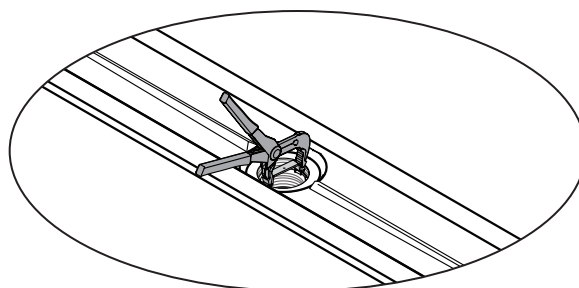

Figure 11
- 2 Using the adjustable pliers, snap the support bracket into the groove in the drain fitting. The top surface of the support bracket should be flush with the top surface of drain pyramids. (Figure 11)